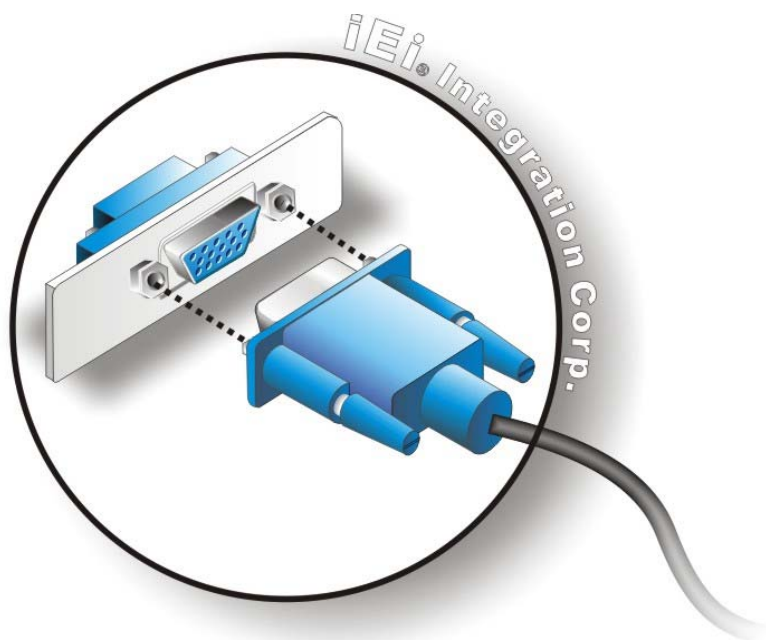

Figure 4-23: VGA Connector
- Step 3: Insert the VGA connector** Once the connectors are properly aligned with the insert the male connector from the VGA screen into the female connector on the eKINO-BT. See **Figure 4-23**.